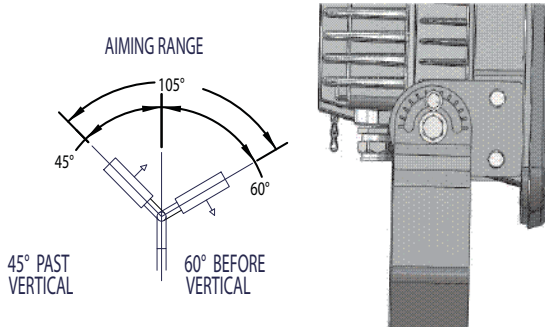

Figure 3
Do not aim light 90° past or before vertical (see Figure 3).
3. To make final vertical adjustment, loosen the pivot bolts on the floodlight yoke to position floodlight at the desired angle (limited to 60 degrees forward and 45 degrees back, as shown in Figure 3).
5. Tighten the two (2) 1/2"-13 bolts to 45 ft.-lbs. (61.0 N-m). Tighten the 5/16"-18 bolts in the adjustment slots to 12 ft.-lbs. (16.3 N-m).